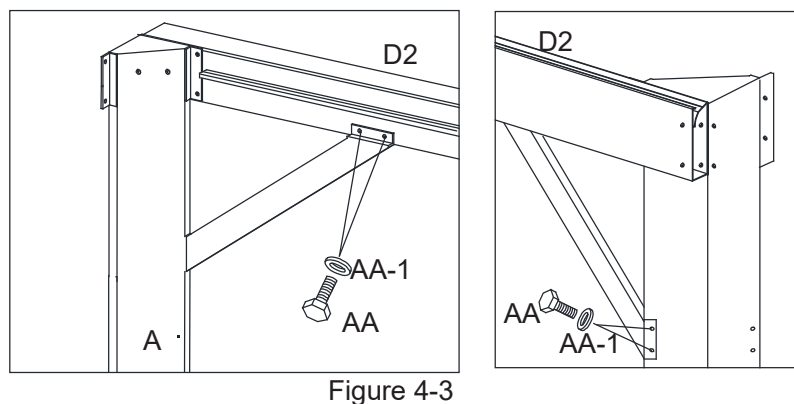

Figure 4-3
4.3: Attach Support Bars (E1/E2) to Corner Post (A) and to Lintels (D1/D2) with Bolts (AA) and Steel washer (AA-1). See Figure 4-3.